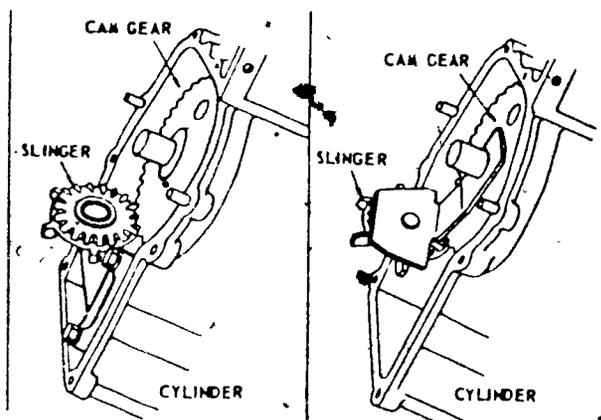

FIGURE 9
- M. Install oil slinger or oil pump if engine is so equipped (Figure 9)